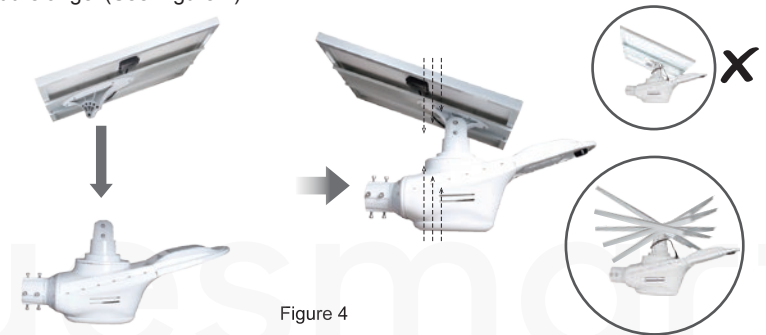

Figure 4
- 3 Combination:** Use 2pcs M8x30 screws and 1set M8x100 screw to fix the multi-angle bracket buckles. Choose the right holes according to the installation position of the sun at 2:00pm. Make sure the solar panel is headed toward the sky and the short end toward the light, or you can not adjust the angel (See Figure 4).